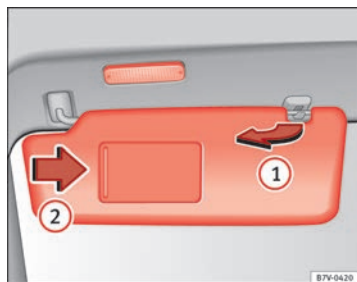

Fig. 63 Sun visor.
- The sun visor can be pulled out of its mounting and turned towards the door → fig. 63 ①.